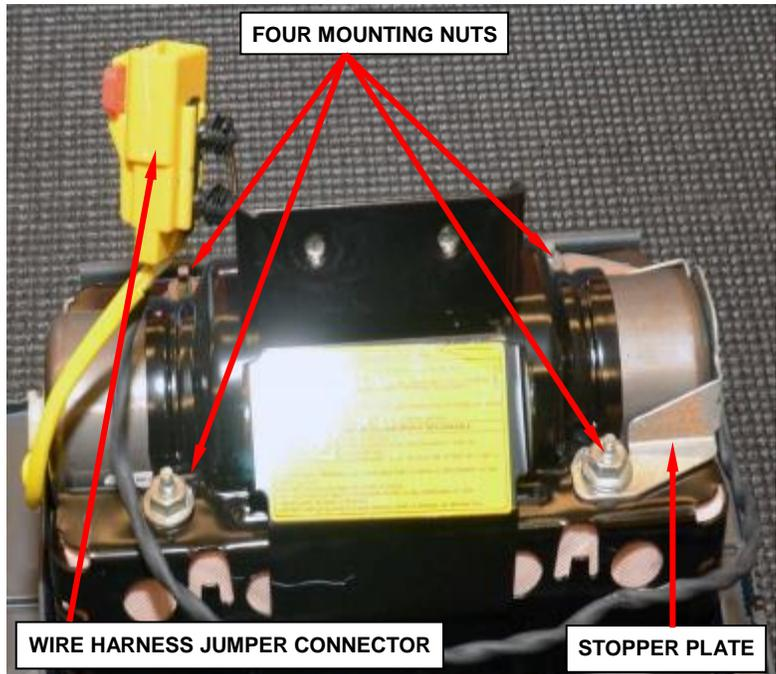

Figure 45 – Airbag Module
- d. Remove the yellow three way wire harness jumper connector from the housing bracket (Figure 45).
- e. Remove and discard the four mounting nuts, then remove the stopper plate from the passenger airbag module (Figure 45).
- h. Install the stopper plate to the passenger airbag module (Figure 45).
- i. Install the four new mounting nuts to the passenger airbag module and tighten to 53 in. lbs. (6 N·m) (Figure 45).